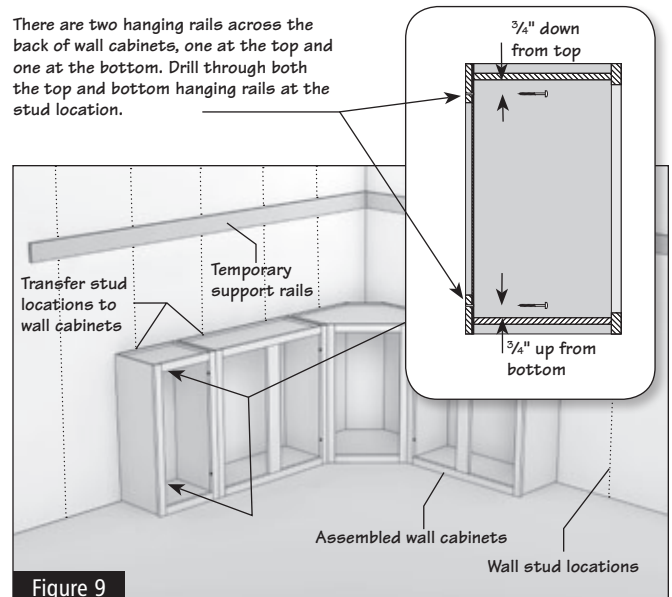

Figure 9
2.8 Once all cabinets are pre-assembled on the floor, measure from the corner to the first stud mark and transfer the measurement to the inside of the cabinet to be installed. Repeat this step for each and every stud. Now drill $\frac{7}{32}$ " holes for mounting through the top and bottom hanging rails inside of the cabinet $\frac{3}{4}$ " down from the top and $\frac{3}{4}$ " up from the bottom. (Figure 9)